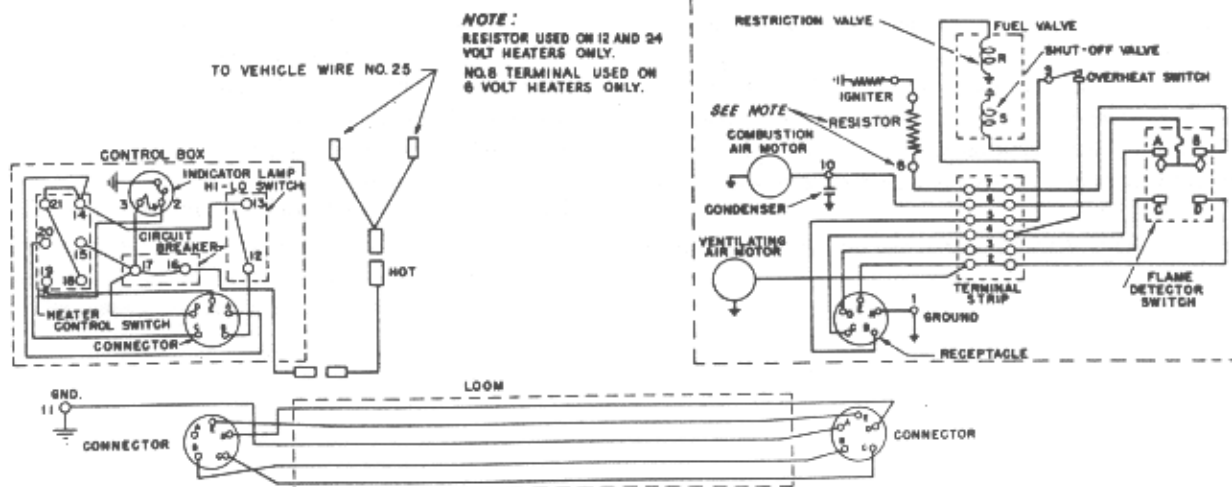

Figure 23—Typical Installation Wiring Diagram, Showing Model 978-M-C6, C12, C24 or 978-M-R12 or R24 Heaters
b. The combustion air motor is energized through the contact plate of the flame detector switch. On the Model 978-M-R6, the normally closed relay is also energized from terminal No. 7 of the terminal strip. This causes the relay contacts to open, placing the resistor in the combustion air motor circuit and causing the motor to start at slow speed (see Figure 23).